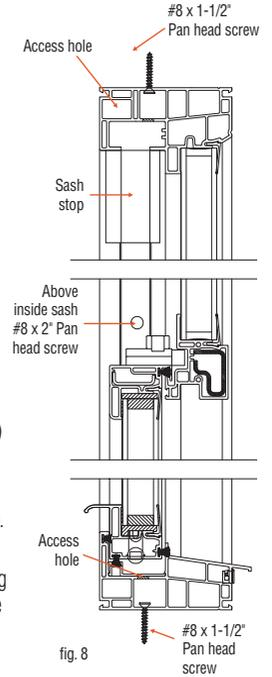

fig. 8
- a. Fasten the top of the Single-Hung behind the sash stops on each side using a #8 x 2-1/2" Phillips Pan head screw. Either slide the sash stops down or remove to insert screws. (fig. 8)
- e. To fasten the center of the window place a screw on each side of the window just above the inside sash. (fig. 8)